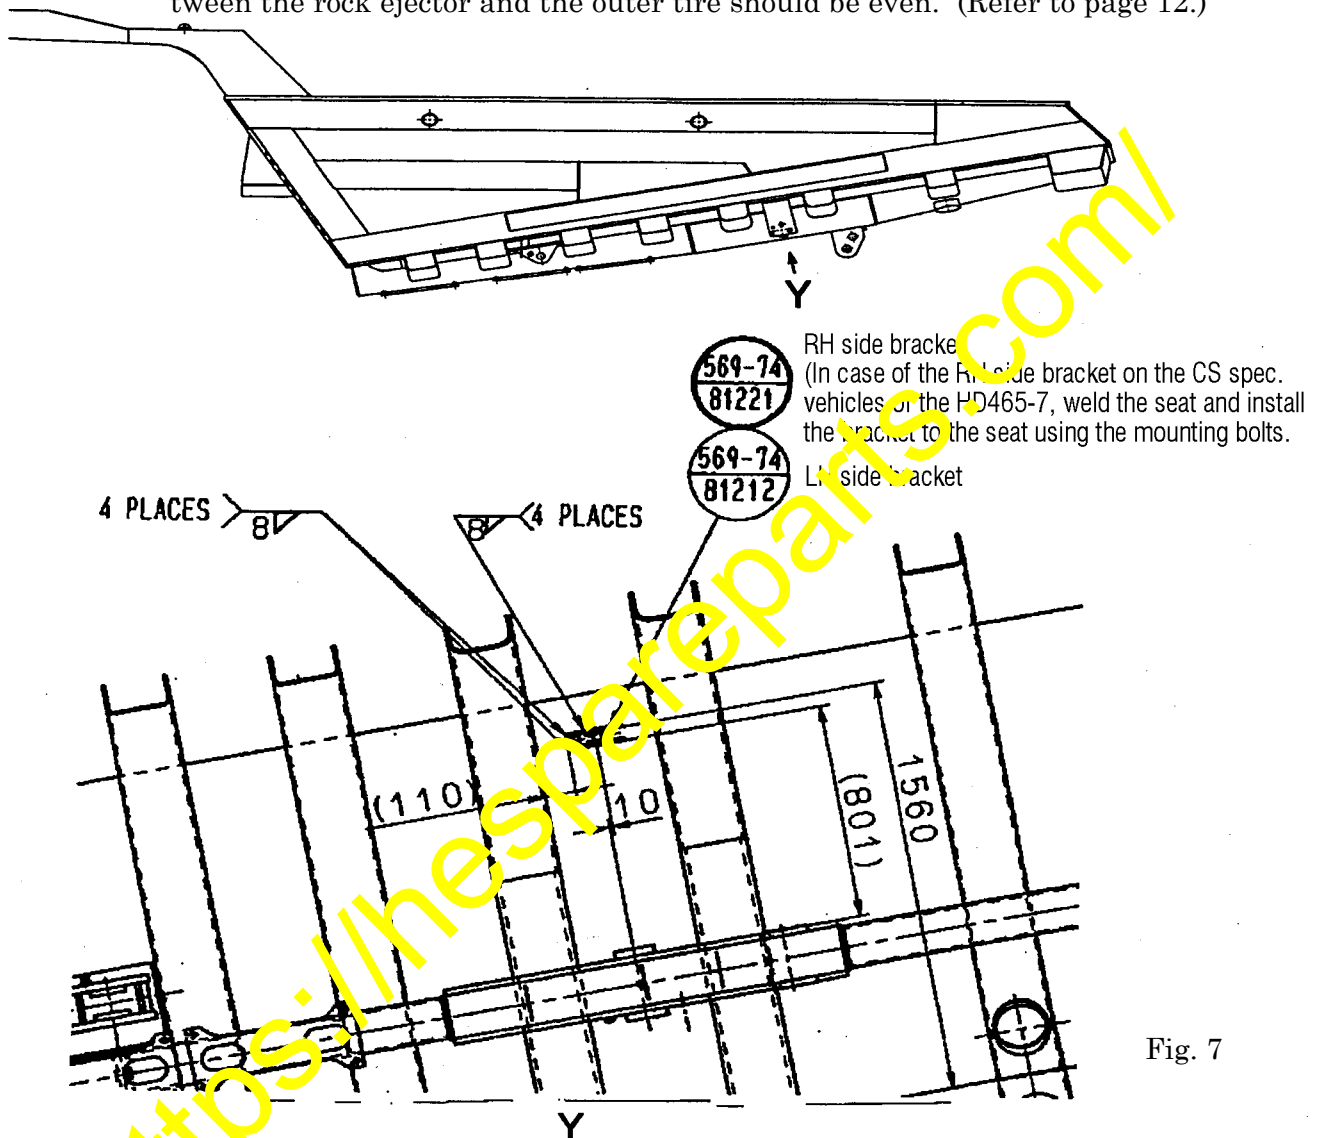

Fig. 7
- (6) Following the instructions given in Fig. 7 below, tack weld the rock ejector mounting bracket.